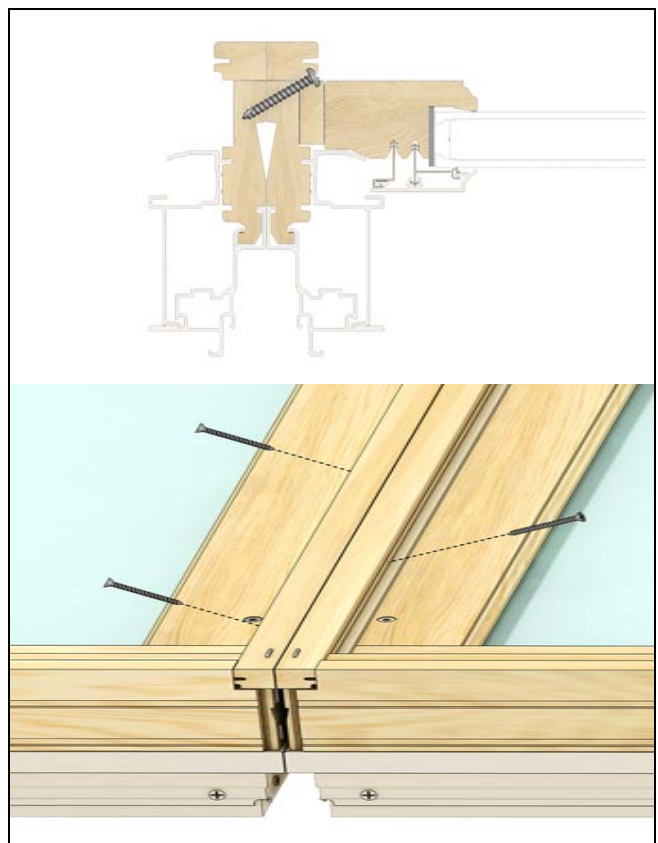

Figure 7
8. If mulling a picture unit with sash installed, screws are driven behind the liner before the side stops are installed. See Figure 7.